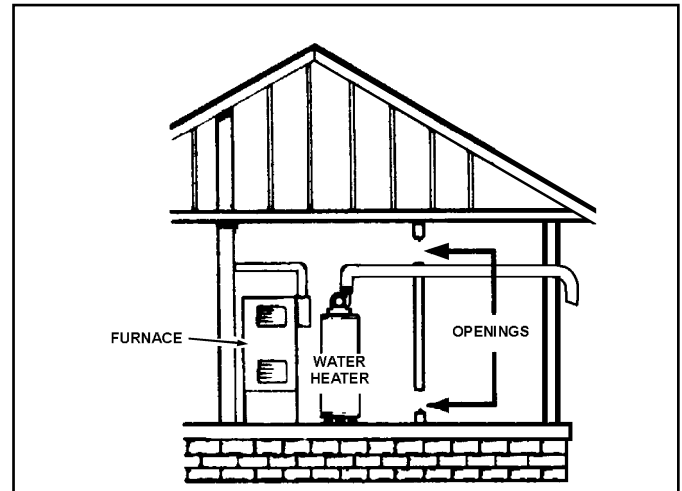

Figure 17.
- A. ALL AIR FROM INSIDE BUILDINGS: (See Figure 17)